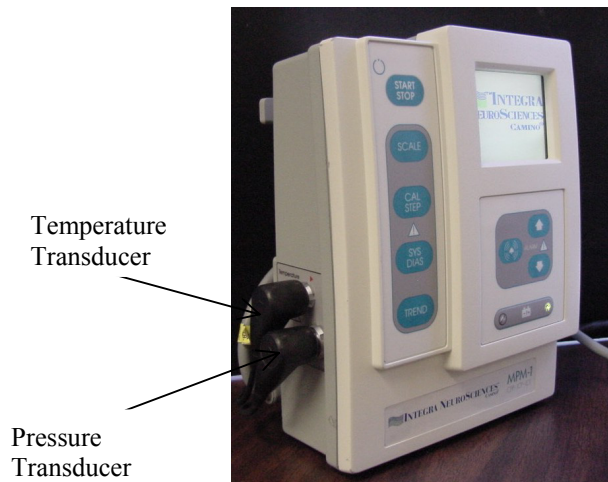

Figure 2-2 Preamp Cable to MPM-1
2. Connect the Preamp Cable to the MPM-1 by inserting the two cable connectors in the appropriate receptacle (Figure 2-2). Note the red alignment marks on the cable connectors and the side panel.